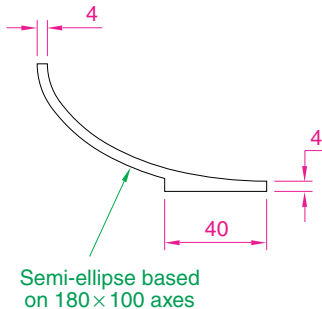

Fig. 13.17 Second example – **Revolve**. The pline outline
2. Construct the pline outline (Fig. 13.17).